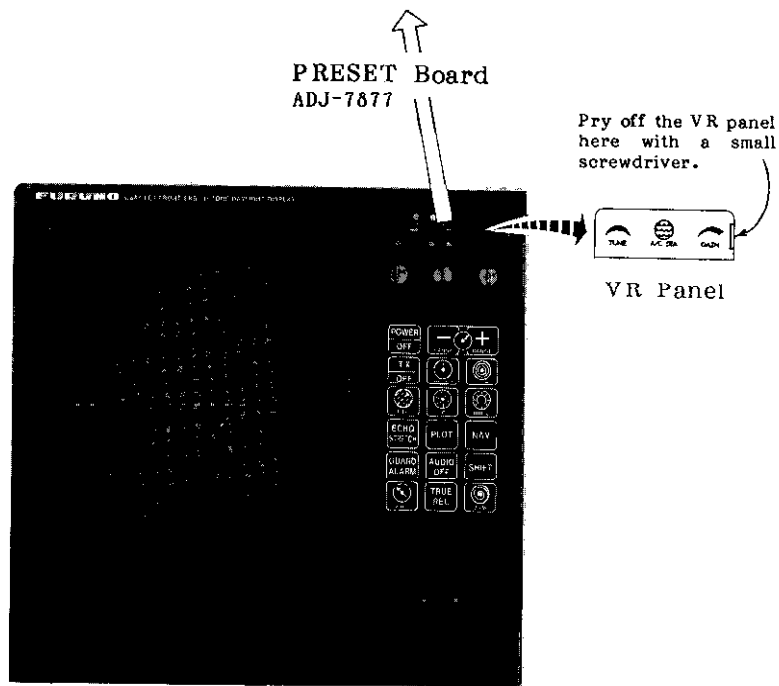

Fig.19 Display Unit with VR Panel Removed
1. Press the  touchpad on the display unit, and the control panel will light up. In approximately 2 minutes and 30 seconds, the message "ST-BY" will appear at center of the screen. While this warmup is in process, pry off the VR panel on the front panel of the display unit. See Fig.19. This will expose the potentiometers for post installation adjustments. Push in the front panel TUNE control and release it to bring it out. Set the control to 12 o'clock, the GAIN control at 2 o'clock, and the A/C SEA control at fully counterclockwise.
3. Press the  touchpad three times so that the radar is on the 24-mile range. Bring up the GAIN control until a small amount of noise appears on the screen. At this point, unless the tuning just happens to be at the optimum point, slowly adjust the coarse "TUNE" control accessible through the VR panel, watching the screen for radar targets. (See Fig.19.) You must patiently adjust this coarse-tuning control in very small increments, allowing the sweep to go around completely in order to observe the effect of a single small change in its setting. When you are finished optimizing the coarse tuning control behind the VR panel, verify that the fine TUNE control on the front panel peaks up for maximum radar echoes at 12 o'clock, or at least close to that point.
5. Compare the bearing measured in step 3 and 4 above, and calculate the direction and magnitude of the bearing error. If the error is within  $\pm 5^\circ$ , adjust rotary code switch S1 ("HEAD", clockwise rotation shifts the picture CW, Fig.19.)
2. Turn potentiometer VR1 ("TUNE", Fig.19), located behind the VR panel of display unit, fully CW and then slowly turn it CCW until the maximum number of tuning bars are lit.
3. Adjust potentiometer VR7 ("PEAK", Fig.19) for the maximum number of tuning bars.
The illumination of the touchpad panel can be adjusted to suit your needs, by adjusting the "DIM" potentiometer (VR5) located behind the VR panel of the display unit. See Fig.19 for the location of VR5.
A/C SEA is preadjusted at the factory. However if the following conditions are not satisfied with the A/C SEA control, adjust potentiometer VR3 ("A/C SEA"), located behind the VR panel of the display unit (Fig.19.)